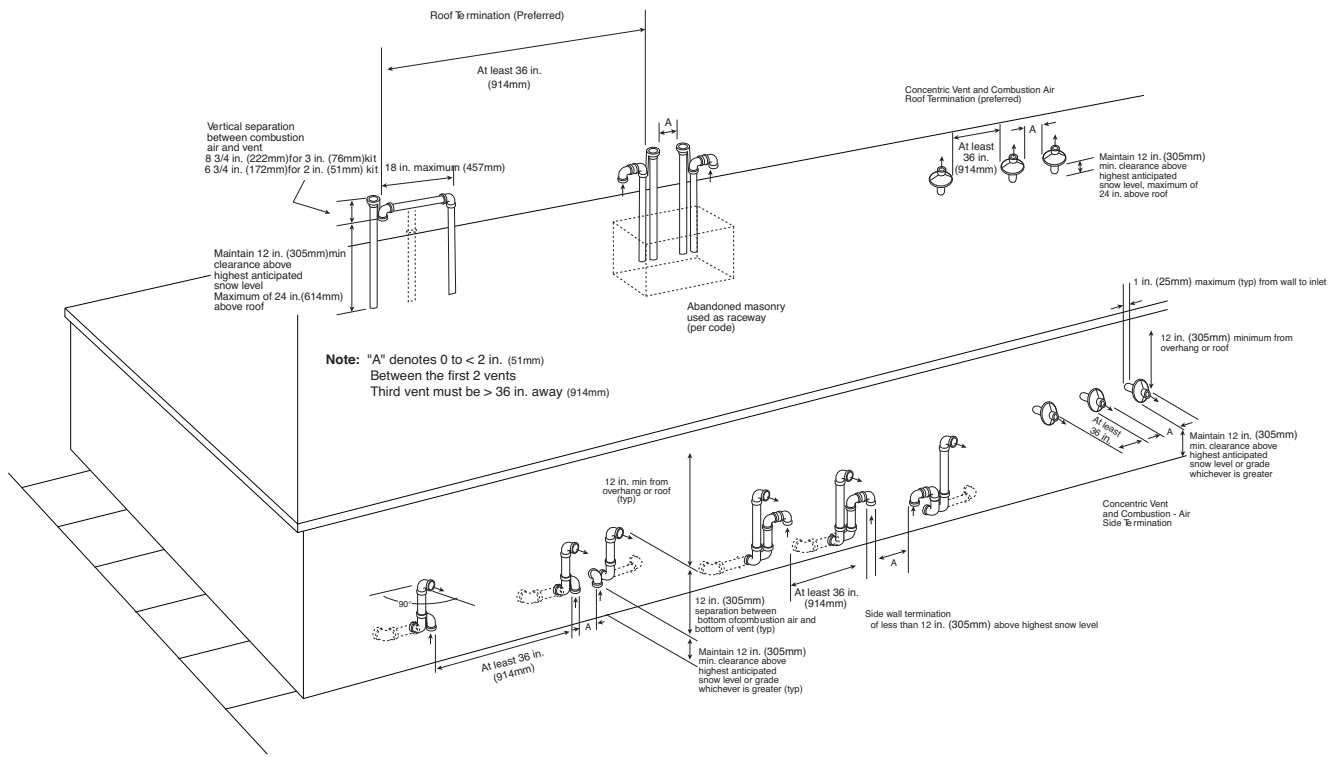
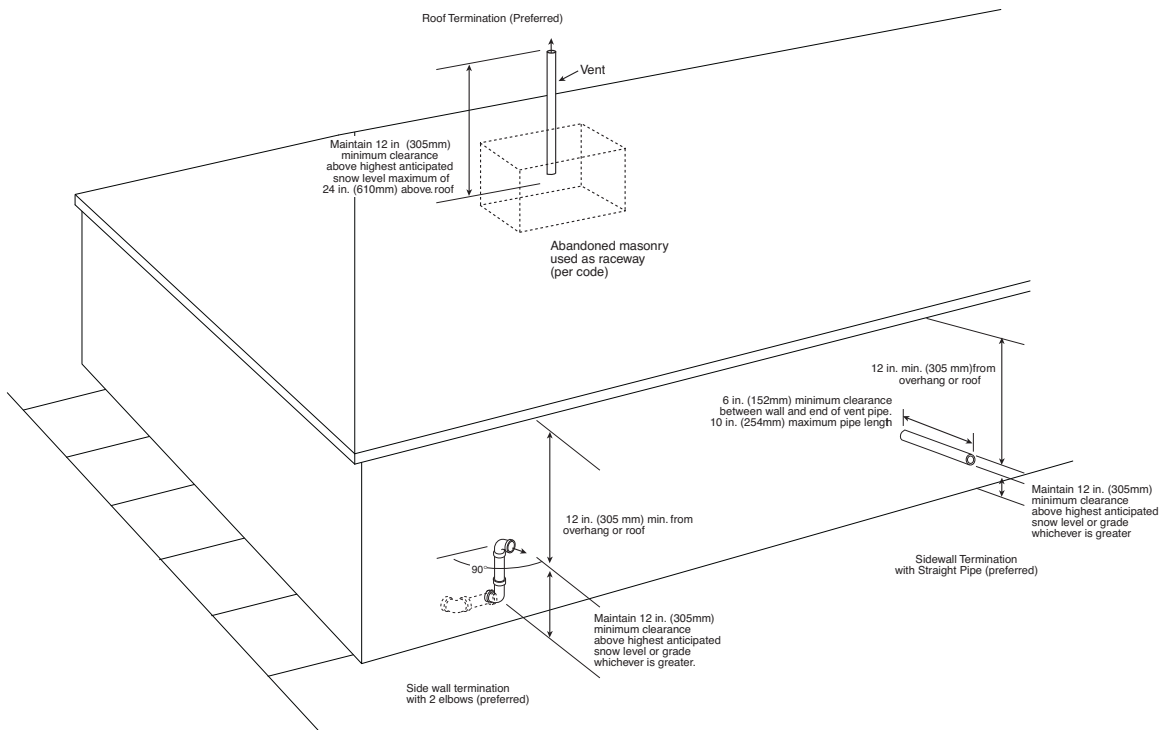

Fig. 40 - Combustion Air and Vent Pipe Termination for Direct Vent (2-pipe) System
Fig. 41 - Vent Pipe Termination for Non-Direct Vent (1-pipe) System
NOTE: (Direct Vent/2-Pipe System ONLY) Moisture in combustion air intake may be a result of improper termination. Ensure combustion air pipe termination is similar to those as shown in Fig. 40 so that it will not be susceptible to area where light snow or other sources of moisture could be pulled in.
NOTE: Do not count elbows or pipe sections in terminations or within furnace (all elbows shown in Fig. 40 and Fig. 41 are not be counted).
Combustion-air (direct vent/2-pipe system only) and vent pipe must terminate outside structure, either through sidewall or roof. For vent termination clearance, refer to Table 8 for Direct Vent/2-Pipe system and Table 9 for Non-direct Vent/1-Pipe system. For exterior piping arrangements, refer to Fig. 40 for Direct Vent/2-Pipe system and Fig. 41 for Non-Direct/1-Pipe system.
Sidewall combustion air pipe termination (direct vent/2-pipe system only) and vent pipe termination may be extended beyond area shown in Fig. 40 or in Fig. 41 per application in outside ambient by insulating pipe as indicated in Table 10.
Roof terminations - Locate assembly through roof to appropriate height as shown in Fig. 40.
Sidewall terminations - Locate assembly through side wall with rain shield positioned no more than 1-in. (25 mm) from wall as shown in Fig. 40.
5. Check required dimensions as shown in Fig. 40.
Roof terminations - Loosely install pipe coupling on properly cut vent pipe. Coupling must be positioned so bracket will mount as shown in Fig. 40.
For applications using combustion-air pipe option, indicated by dashed lines in Fig. 40, install 90° street elbow into 90° elbow, making a U-fitting. A 180° U-fitting may be used.
Sidewall terminations - Install bracket as shown in Fig. 40.
For applications using vent pipe option indicated by dashed lines in Fig. 40, rotate vent elbow 90° from position shown in Fig. 40.
4. Check required dimensions as shown in Fig. 40.
(Direct Vent/2-Pipe System ONLY) - When 2 or more 58MCB furnaces are vented near each other, 2 vent terminations may be installed as shown in Fig. 40, but next vent termination must be at least 36 in. (914 mm) away from first 2 terminations. It is important that vent terminations be made as shown in Fig. 40 to avoid recirculation of flue gases.